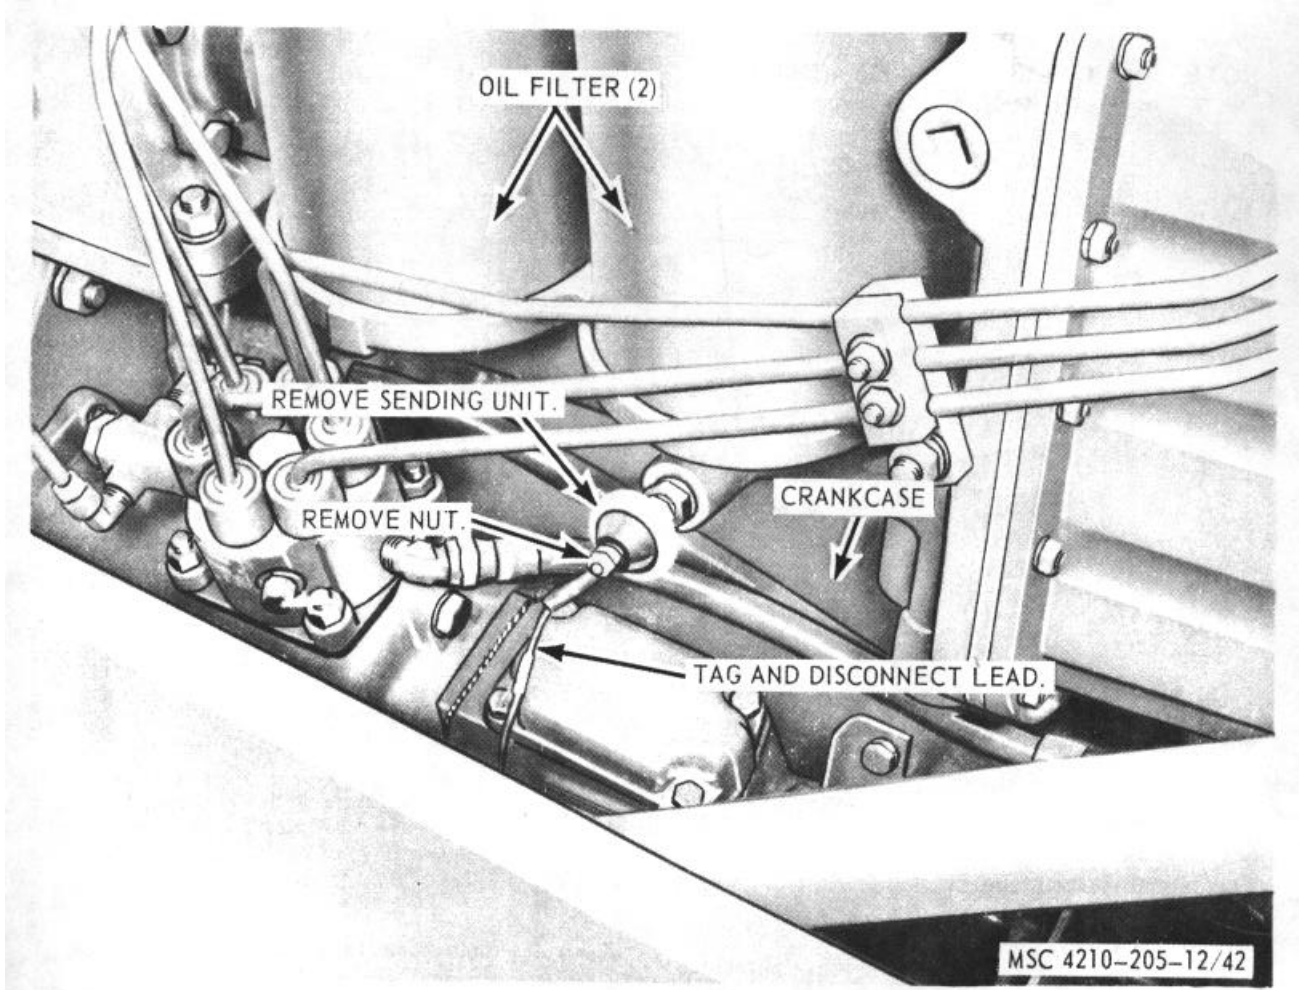

Figure 42. Engine oil pressure sending unit, removal and installation.
a. *Removal.* Refer to figure 42, and remove the engine oil pressure sending unit from the engine.
- (1) Clean all parts with a clean cloth dampened in an approved cleaning solvent, and dry thoroughly.
- (2) Inspect all parts for damaged or defective condition.
- (3) Replace or repair damaged or defective l)arts as necessary.
c. *Installation.* Refer to figure 42, and install the engine oil pressure sending unit on the engine.